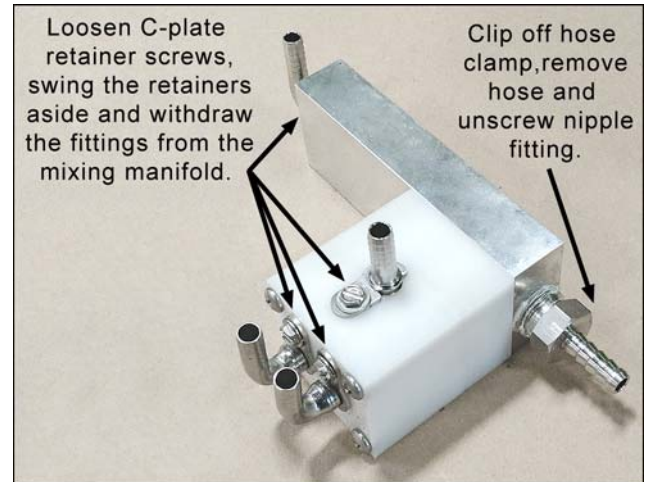

Figure 6-4 - Mixing Manifold Hose Fittings Removal
- 3) Loosen the C-plate retainer screws where the four hoses connect to the manifold (Fig. 6-4).